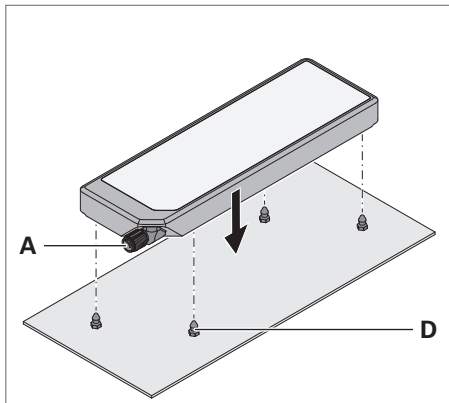
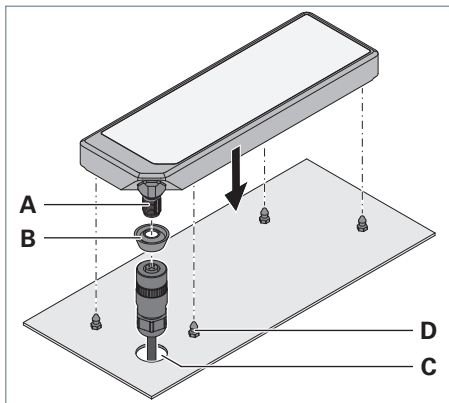

Fig. 1: APA – Plug-in connection on the front side of the machine wall.
Fig. 2: APA – Plug-in connection on the rear side.
- Plug-in connection on the front side of the machine wall, see Fig. 1
- Plug-in connection on the rear side, see Fig. 2
- **Only** for plug-in connection on the rear side: The bore **C** $\varnothing$ 21 mm for the plug has been drilled, see Fig. 2.
- ▶ Apply a suitable threadlocker to the supplied screw nipples **D**, see Fig. 1 and see Fig. 2.
- ▶ Screw the screw nipples **D** into the prepared bores in the machine wall, see Fig. 1 and see Fig. 2.
- ▶ **Only** for rear plug-in connection (position 3.2): Slide the supplied sealing ring **B** over the plug, see Fig. 2.
- ▶ Press the luminaire onto the nipples until it audibly engages see Fig. 1 and see Fig. 2.